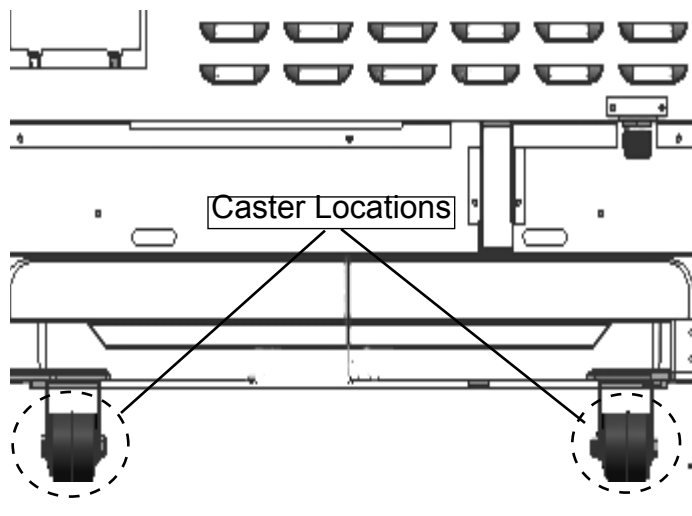

Figure 27: Caster Locations
1. Each range has a pair of casters adjacent to the rear legs (see *Figure 27*). The casters make moving the range easier by slightly lifting the front and allowing the casters to glide the range back towards its installed position.
2. The range has (4) leveling legs that are threaded into the cast aluminum base structure. The range is leveled by rotating the legs using an 12" (305mm) adjustable wrench on the flat sides of each foot.